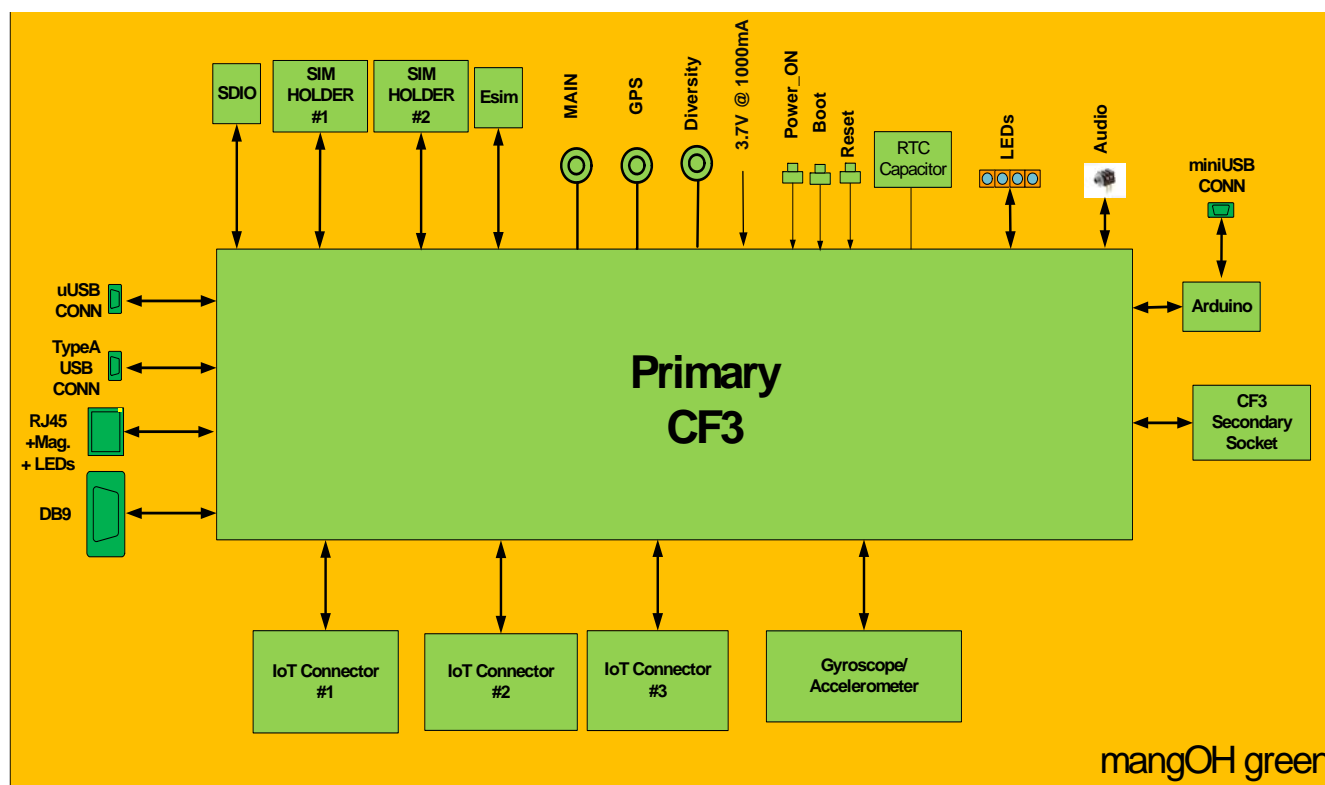
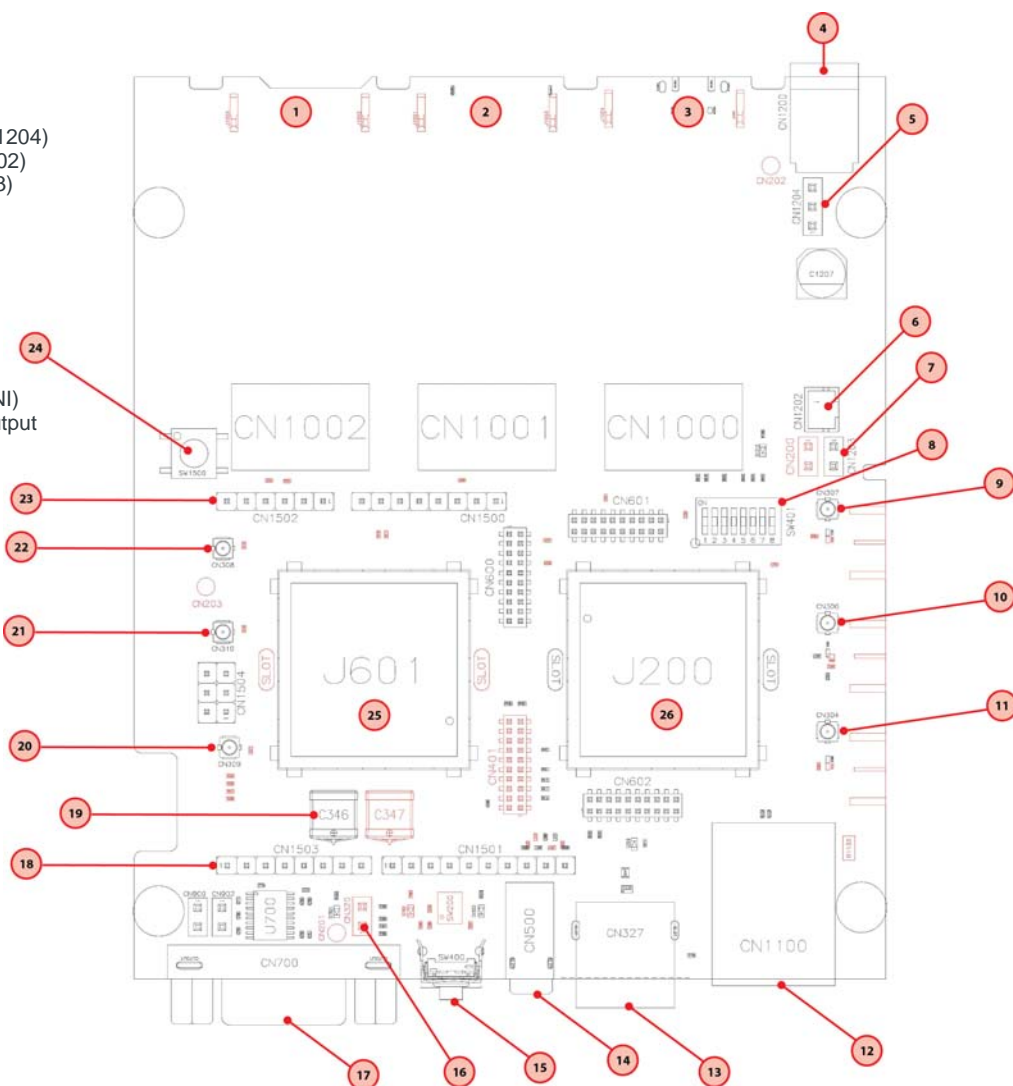
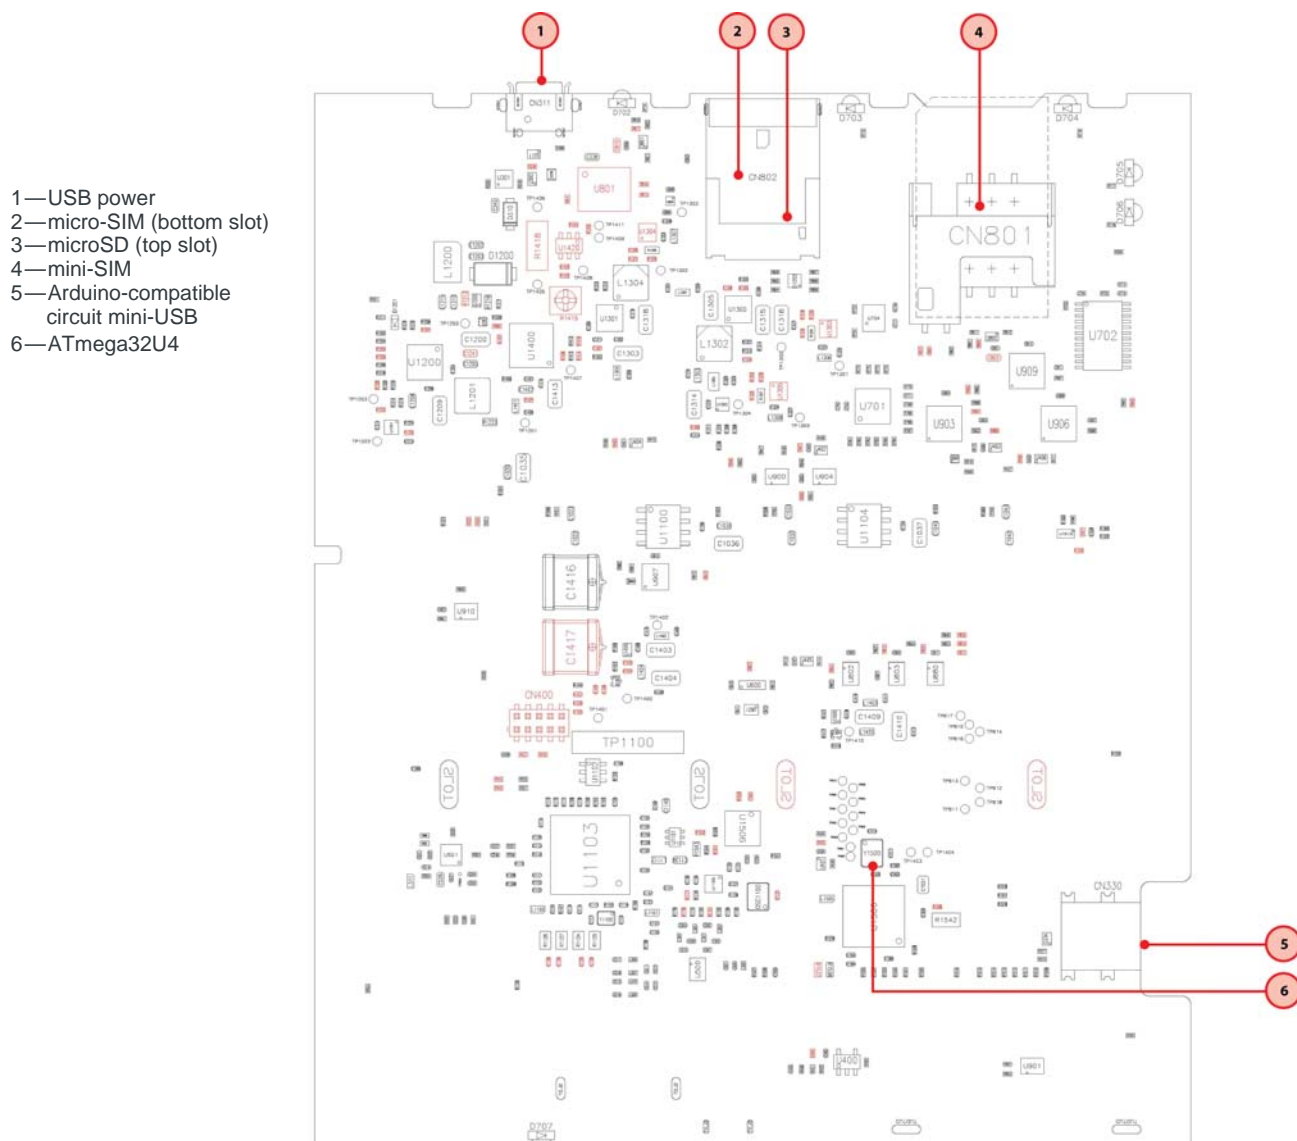

Figure 2-1: mangOH Green Hardware Components Overview
Figure 2-2: mangOH Green—Top Side Switches/Connectors
Figure 2-3: mangOH Green—Bottom Side Switches/Connectors
Figure 2-1 provides an overview of the mangOH Green's hardware components relative to the primary CF3 module, and Figure 2-2 on page 7 and Figure 2-3 on page 8 show their locations.
a. Board designators (e.g. CN311, SW401, etc.) are for reference against the published mangOH Green schematic. For component locations on the board, see Figure 2-2 on page 7 and Figure 2-3 on page 8.